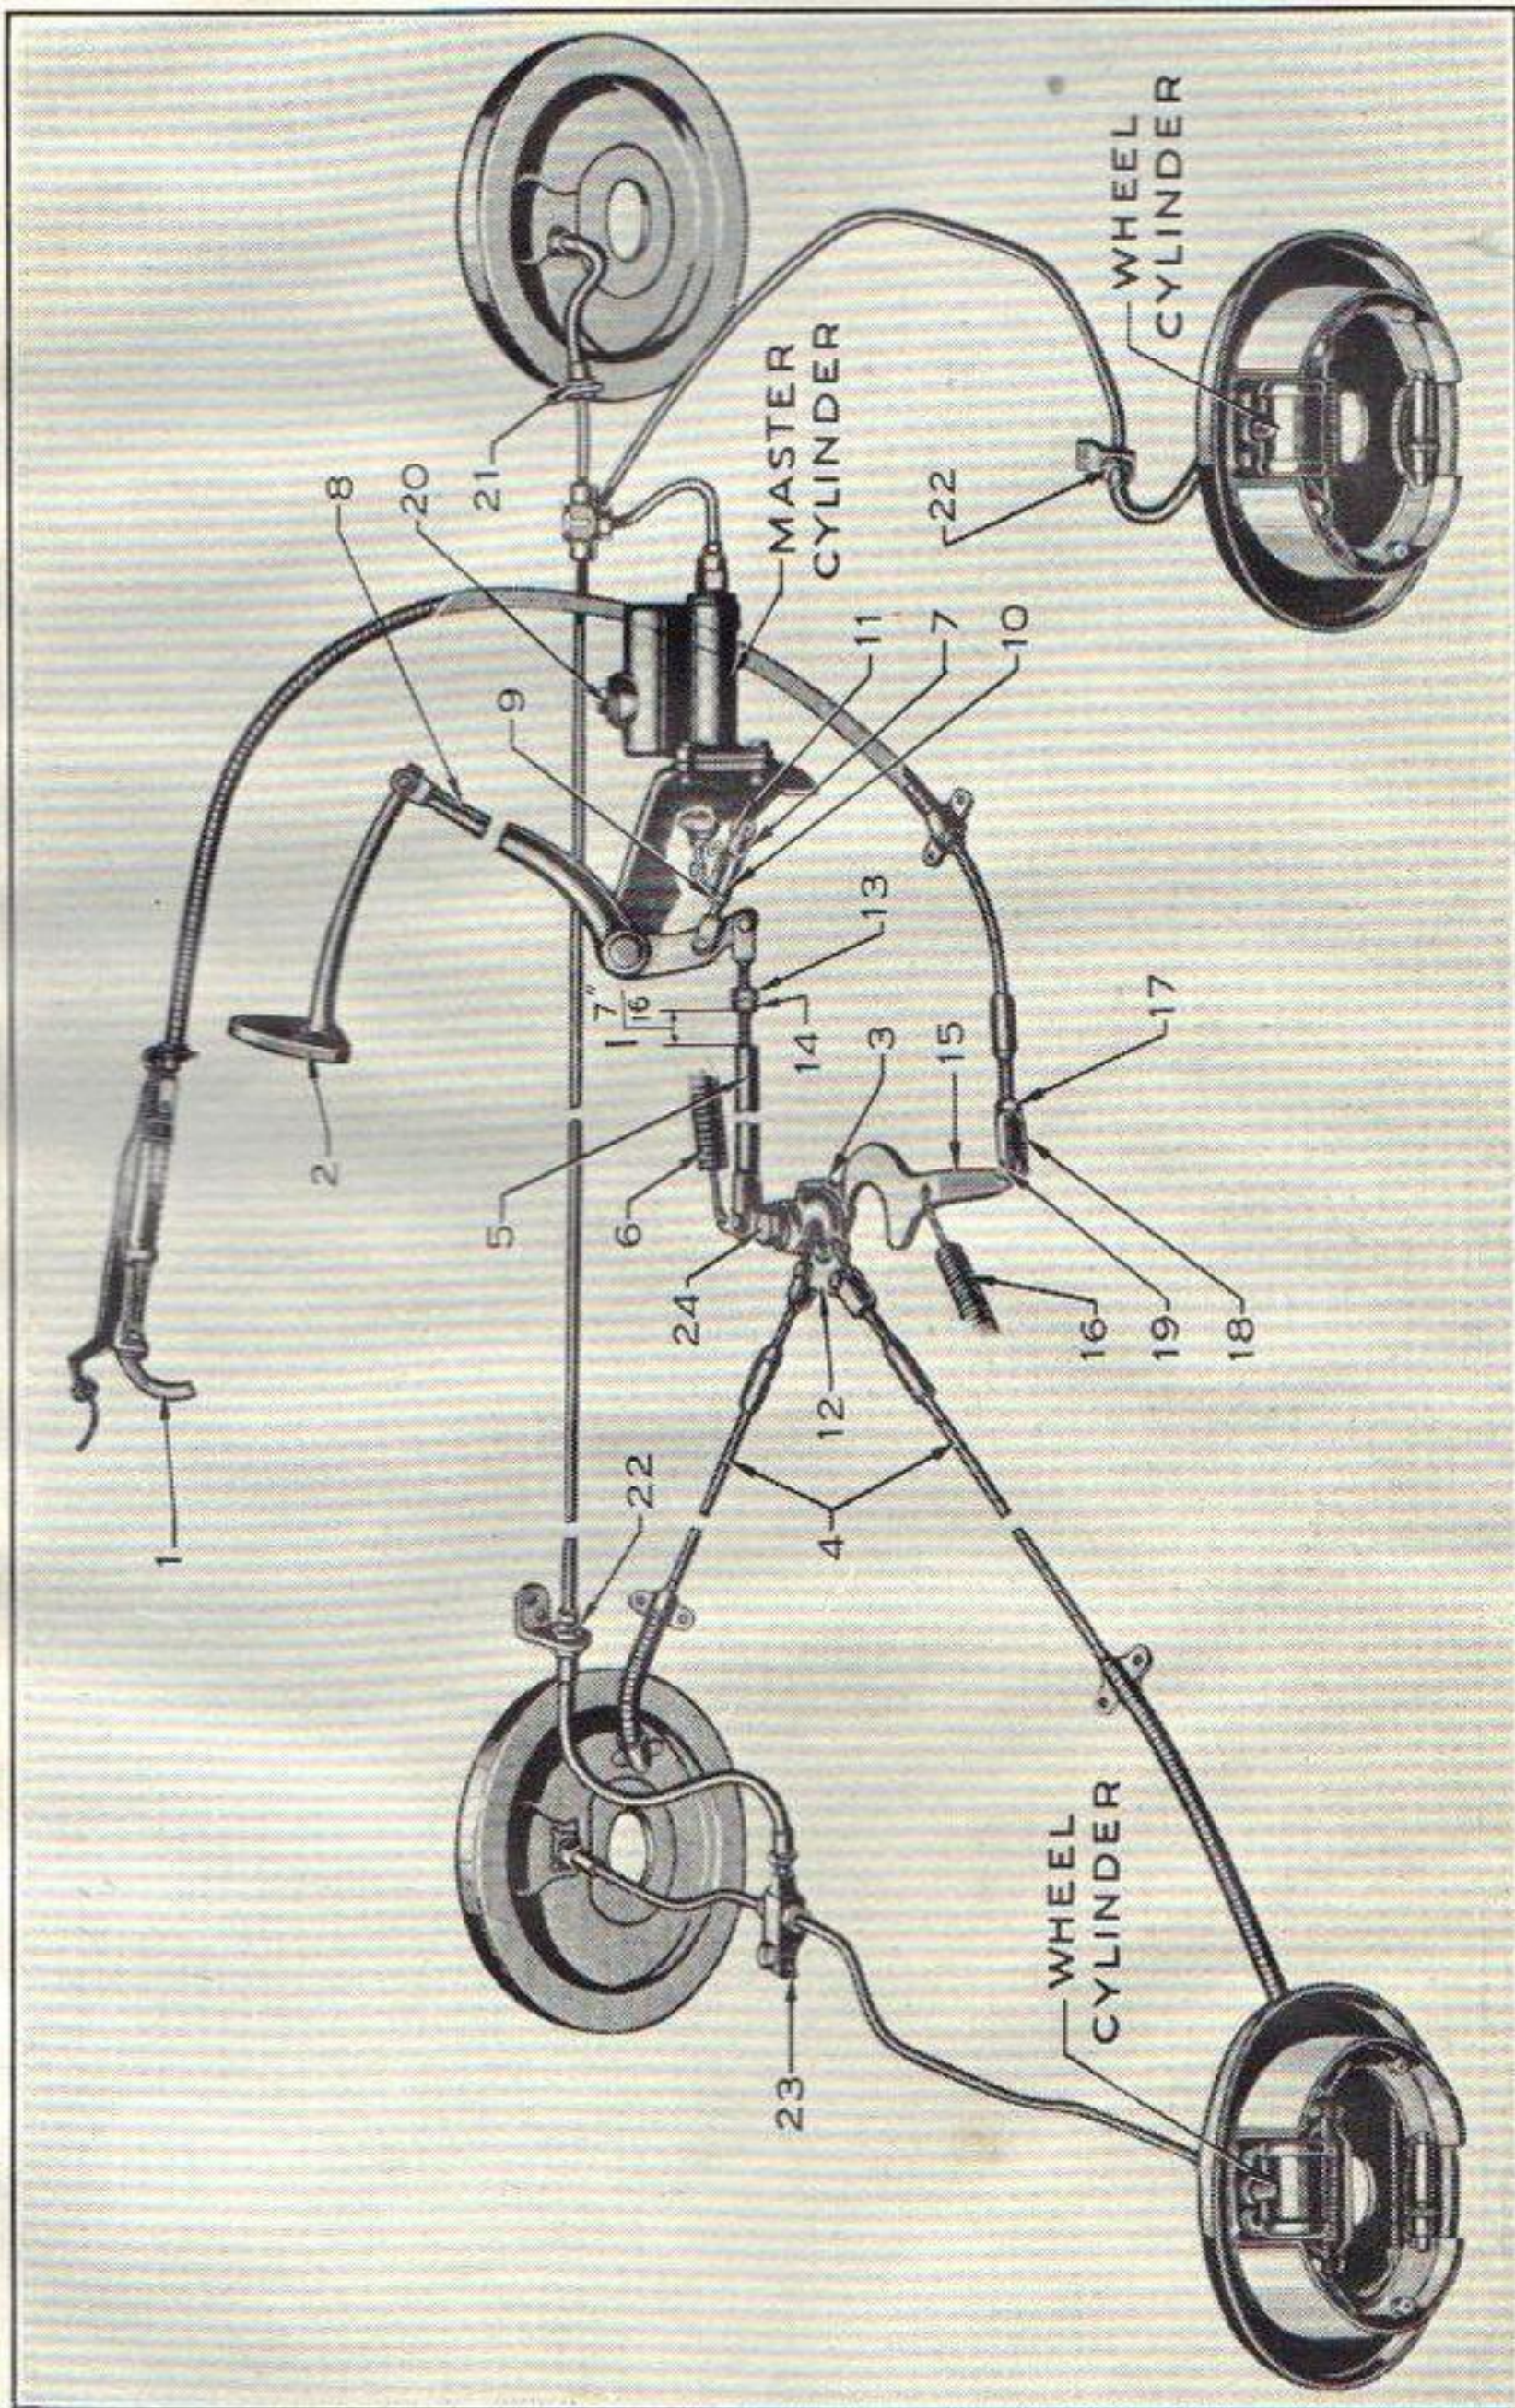
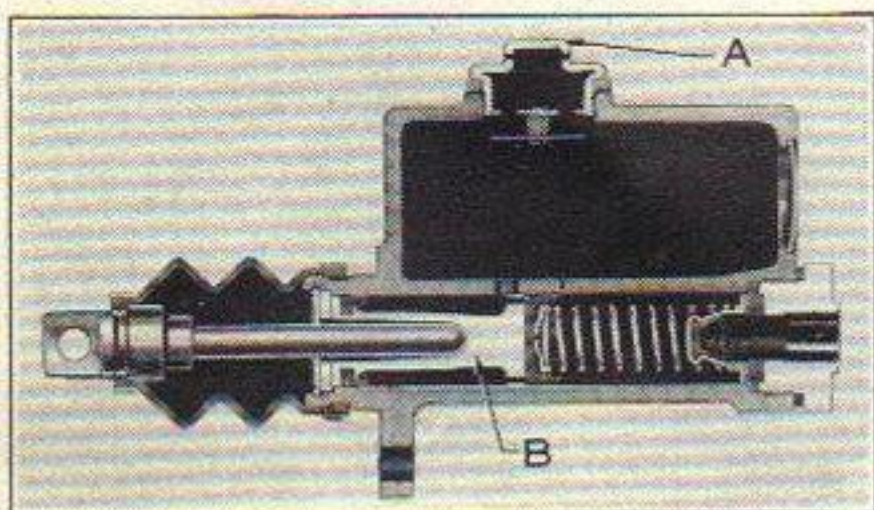

Figure 37
Figure 38
The brakes on Hudson cars are hydraulically operated, with supplementary actuation of the rear brake shoes from both the foot pedal and hand brake control. See Figure 37.
A master cylinder, Figure 38, incorporating compensating features, is mounted on the pedal mounting bracket and is accessible
Dirt is injurious to the system and extreme care should be taken to wipe off cap (A), Figure 38, before removing for inspection and filling.
To insure full return of the master cylinder piston (B), Figure 38, when the brake is released, there must be $\frac{1}{4}$ " clearance between pedal shank (8), Figure 37, and the floor board.
3. Disconnect rear brake cables at equalizer (12), Figure 37, by removing clevis pins.
11. Pull cables tight and adjust ends so clevis pins just enter holes in equalizer bar (12), Figure 37.